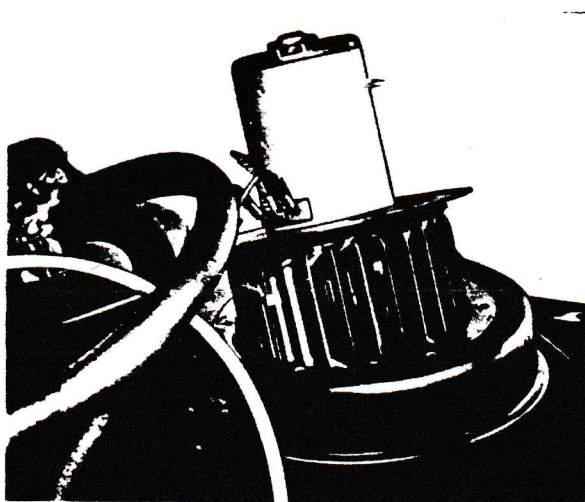

Fig. 100. Removing heater fan motor
2. Unscrew the six screws which hold the fan motor to the radiator shell and lift this out as shown in Fig. 100.